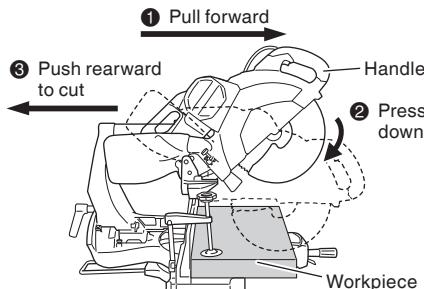

Fig. 27
Then press down on the handle and slide the saw blade back to cut the workpiece as indicated in Fig. 27. This facilitates cutting of workpieces of up to 4-3/16" (107 mm) in height and 12-1/4" (312 mm) in width.
- * For slide cutting, follow the procedures indicated above in Fig. 27. Forward slide cutting (toward the operator) is very dangerous because the saw blade could kick upward from the workpiece. Therefore, always slide the handle away from the operator.